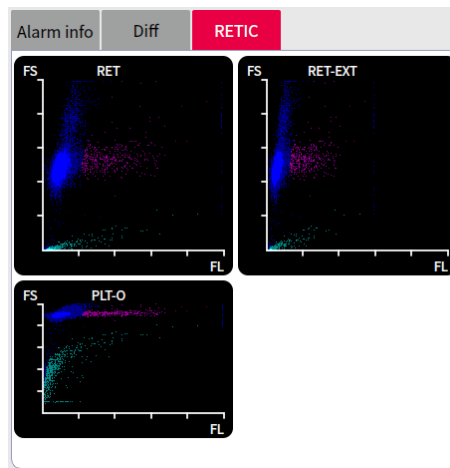

Figure 16 RET scatter diagram
- c. Click 'RETIC' to display the RET scatter diagram, as shown in Figure 16.